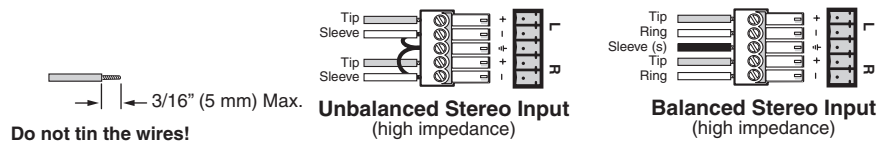
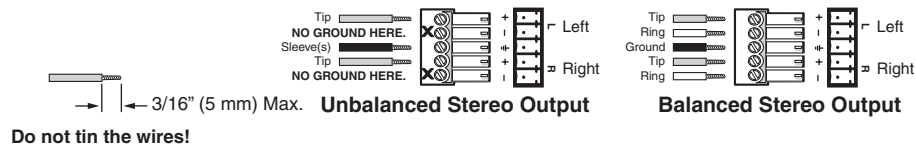

Figure 2-4 — Captive screw connector wiring for audio inputs
Figure 2-6 — Captive screw connector wiring for audio output
- ⑤ **Balanced or unbalanced audio input connections (captive screw audio connector [A] models only)** — Each input has a 3.5 mm, 5-pole captive screw connector for balanced or unbalanced stereo audio input. Connectors are included with each MAV AV captive screw connector switcher, but you must supply the audio cable. See figure 2-4 to wire a connector for the appropriate input type and impedance level. High impedance is generally over 5 k ohms.
NOTE Figure 2-4 shows two methods of wiring the captive screw audio connectors for input and figure 2-6 shows two methods of wiring the connectors for output. A mono audio connector consists of the tip and sleeve. A stereo audio connector consists of the tip, ring, and sleeve. If you are wiring a captive screw connector from an existing unbalanced audio cable, the white insulated wire is typically the left channel (tip) and the red insulated wire is typically the right channel (sleeve). There is no reliable standard for existing balanced audio cables.
- ⑦ **Balanced or unbalanced audio output connectors (captive screw audio connector [A] models only)** — These 3.5 mm, 5-pole captive screw connectors output the selected unamplified, line level audio. Connect audio devices, such as an audio amplifier or powered speakers to these connectors. See figure 2-6 to properly wire an output connector.